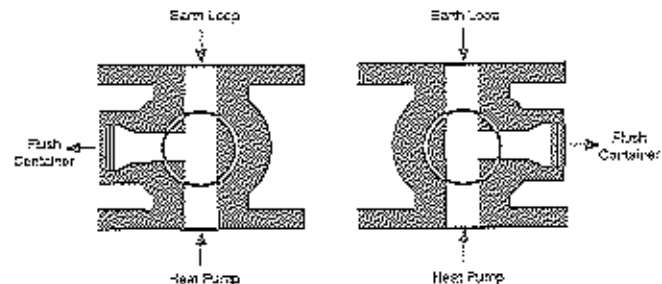
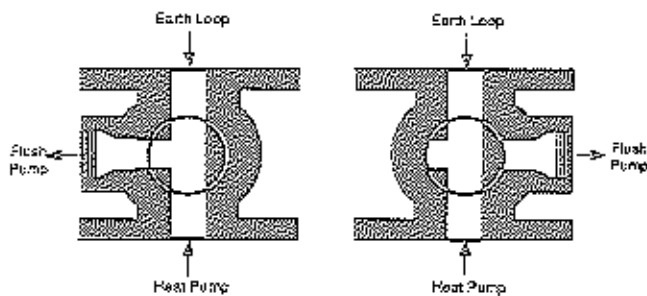

Figure 7
Figure 8
When the earth loop and the heat pump are both flushed of air and debris, rotate the module valves as shown in Figure 7 while the pump is running.
Rotate the discharge module valve as shown in Figure 8 below. Discharge flow should stop and system pressure should increase steadily as the pump forces more water into the system. If pressure does not decrease or if water levels fall, air remains in the system and further purging is necessary.
- ( ) 4. **System Flushing:** Proper system cleaning and flushing is the most important aspect of the start-up procedure for water source heat pump installations. Make sure that the system has been flushed properly, with all supply and return hoses connected end-to-end as illustrated in either Figure 7 or Figure 8. (This particular method not only facilitates system flushing, but also prevents fouling of the unit heat exchangers by system water.)